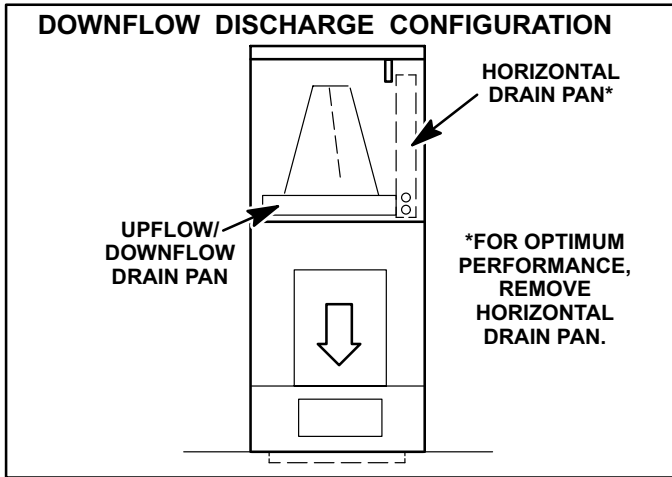

FIGURE 21
- 3- Remove horizontal drain pan. See figure 21.
- 6- Replace coil assembly and blower if removed. Replace coil access panel. If horizontal drain pan is not removed, depress tab in cabinet support rail to hold horizontal drain pan in place. See figure 21.